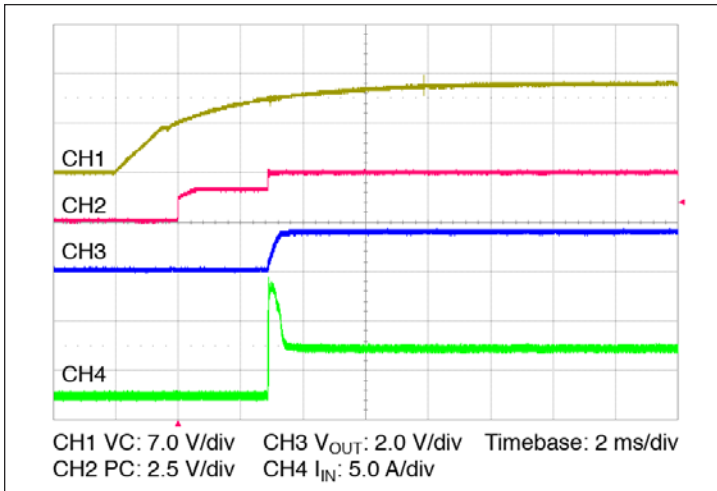

Figure 11 – Start up from application of VC; V_{IN} pre-applied
- Stand-alone operation (VC applied after V_{IN}): In this case the VTM output will begin to rise upon the application of the VC voltage (See Figure 11). The Adaptive Soft Start Circuit (See Section 11) may vary the output rate of rise in order to limit the inrush current to its maximum level. When starting into high capacitance, or a short, the output current will be limited for a maximum of 120 μ /sec. After this period, the Adaptive Soft Start Circuit will time out and the VTM module may shut down. No restart will be attempted until VC is re-applied or PC is toggled. The maximum output capacitance is limited to 9100 μ F in this mode of operation to ensure a successful start.